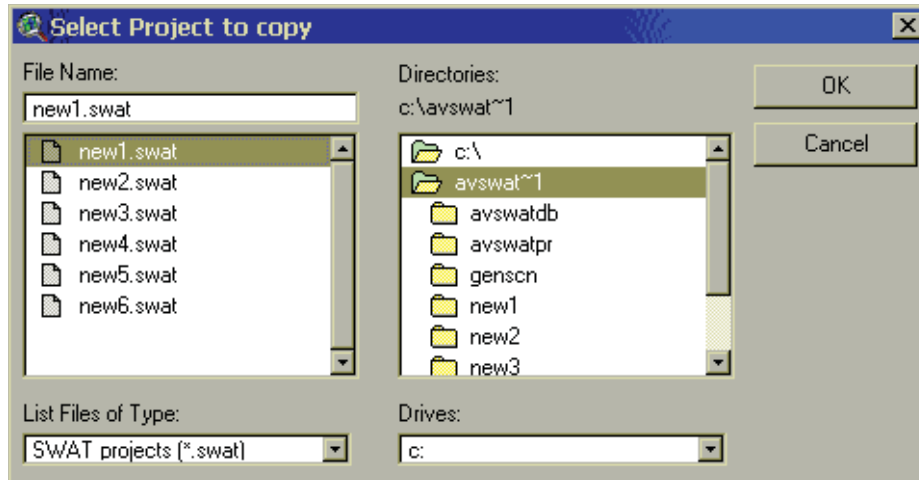

Figure 4.5
2. A browser will be displayed (Figure 4.5). If necessary, move to the proper directory. Type or click the name of the SWAT project log file (.swat) belonging to the project you wish to copy.